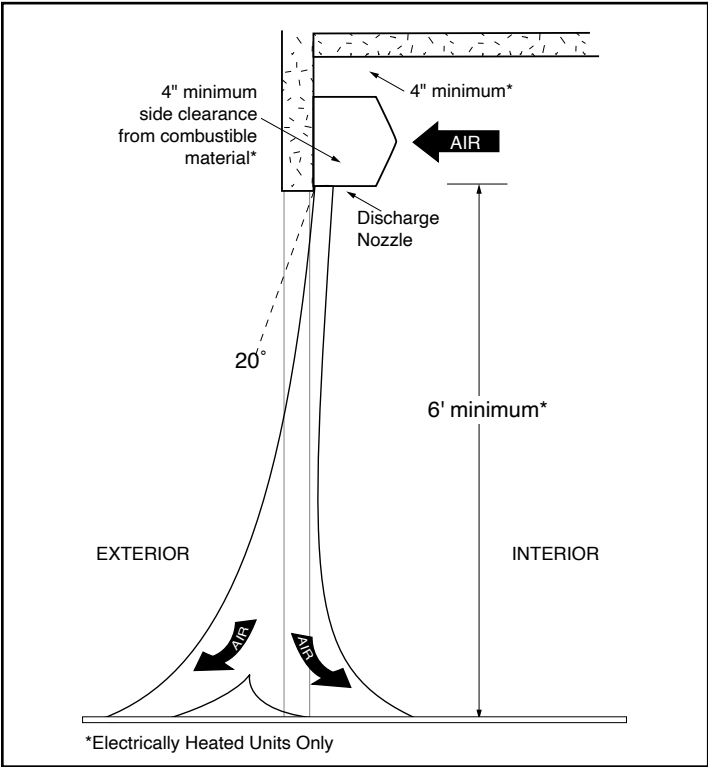

Figure 2
- When determining the mounting location for the air curtain(s), make sure that nothing interferes with the curtain of air developed when the discharge vanes are directed from 0° to 20° toward the door opening. If the air stream strikes any obstruction (the top edge of the doorway, a door opening device, etc.), the effectiveness of the air curtain will be greatly reduced. **See Figure 2.**